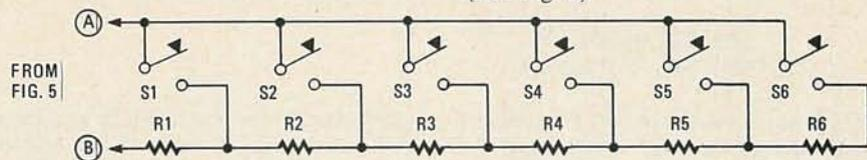

FIG. 6—THE CHORD ORGAN has six monophonic oscillators to cover three octaves. Each oscillator is tuned to six notes selected by the key arrangement shown.
See Fig. 6 for higher tones. Frequencies in Hz.
*R_B IS SHOWN IN MORE DETAIL IN FIG. 6 AS A SERIES OF 6 FIXED RESISTORS.
ent values of R_B, each with its own switch (See Fig. 6).
- R_B—Calibrating resistors, selected by trial (see Fig. 6 and text)
To calibrate the organ, begin with the oscillator 6. Referring to Table 2, select R1 for 1865 Hz when S1 is closed. Then, select a value for R2 to play 1760 Hz when S2 is closed. Next, select R3 to play 932 Hz when S3 is closed, and so on. Similarly, proceed with oscillator 5 and the remainder, observing the frequency meter for correct frequencies. Don't try for an exact frequency in each case, but accuracy should be well within 0.5%. You may need two or even three resistors in series to reach the desired value. Here are the approximate values for the resistors shown in Fig. 6: